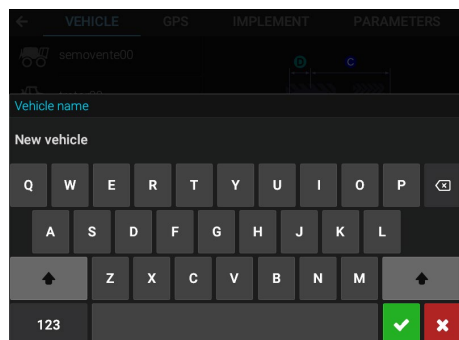

Fig. 18
-  Allows entering letters (Fig. 18)